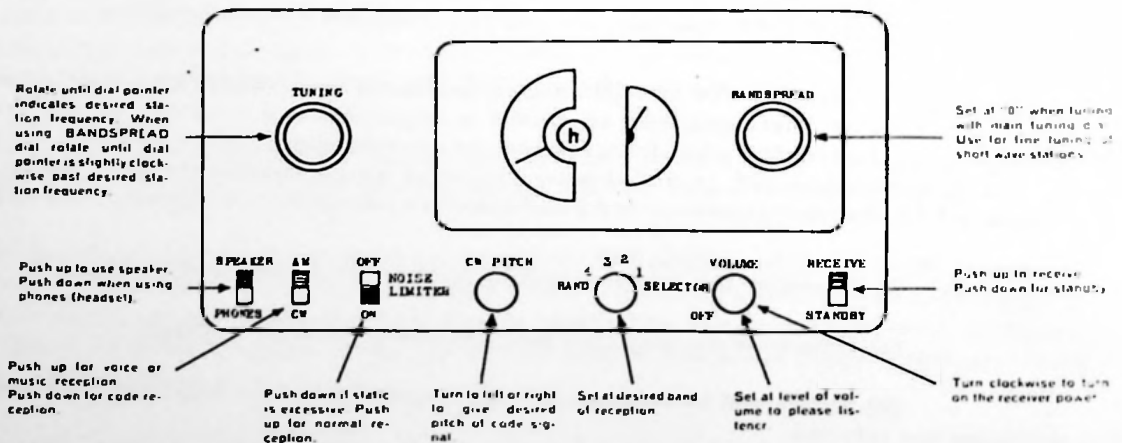

Figure 5. Radio Receiver Model S-38, view showing use of controls.
Reference to Figure 5 will help in becoming familiar with the use of the controls.
9. **BAND SPREAD** control.—This control is used independent of the main tuning control to provide for fine tuning of short wave stations. See Figure 5 for illustration on use of the controls. Also following paragraph on band spreading.